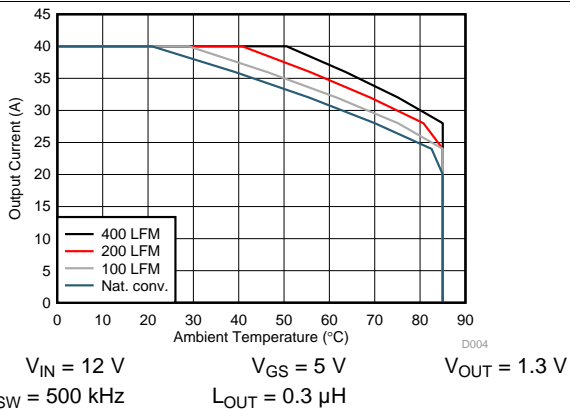
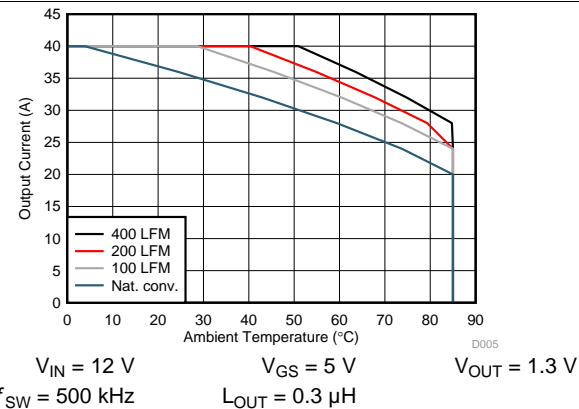
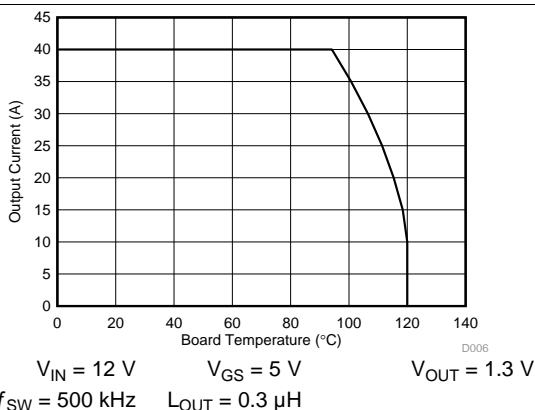

Figure 3. Safe Operating Area (SOA) – PCB Vertical Mount
Figure 4. Safe Operating Area (SOA) – PCB Horizontal Mount
Figure 5. Typical Safe Operating Area (SOA)
$T_J = 125^\circ\text{C}$, unless stated otherwise. The typical power block system characteristic curves Figure 3, Figure 4, and Figure 5 are based on measurements made on a PCB design with dimensions of 4 in (W) \times 3.5 in (L) \times 0.062 in (H) and 6 copper layers of 1-oz copper thickness. See Application and Implementation for detailed explanation.
The SOA curves in the CSD87350Q5D data sheet provides guidance on the temperature boundaries within an operating system by incorporating the thermal resistance and system power loss. **Figure 3** to **Figure 5** outline the temperature and airflow conditions required for a given load current. The area under the curve dictates the safe operating area. All the curves are based on measurements made on a PCB design with dimensions of 4 in (W) × 3.5 in (L) × 0.062 in (T) and 6 copper layers of 1-oz copper thickness.